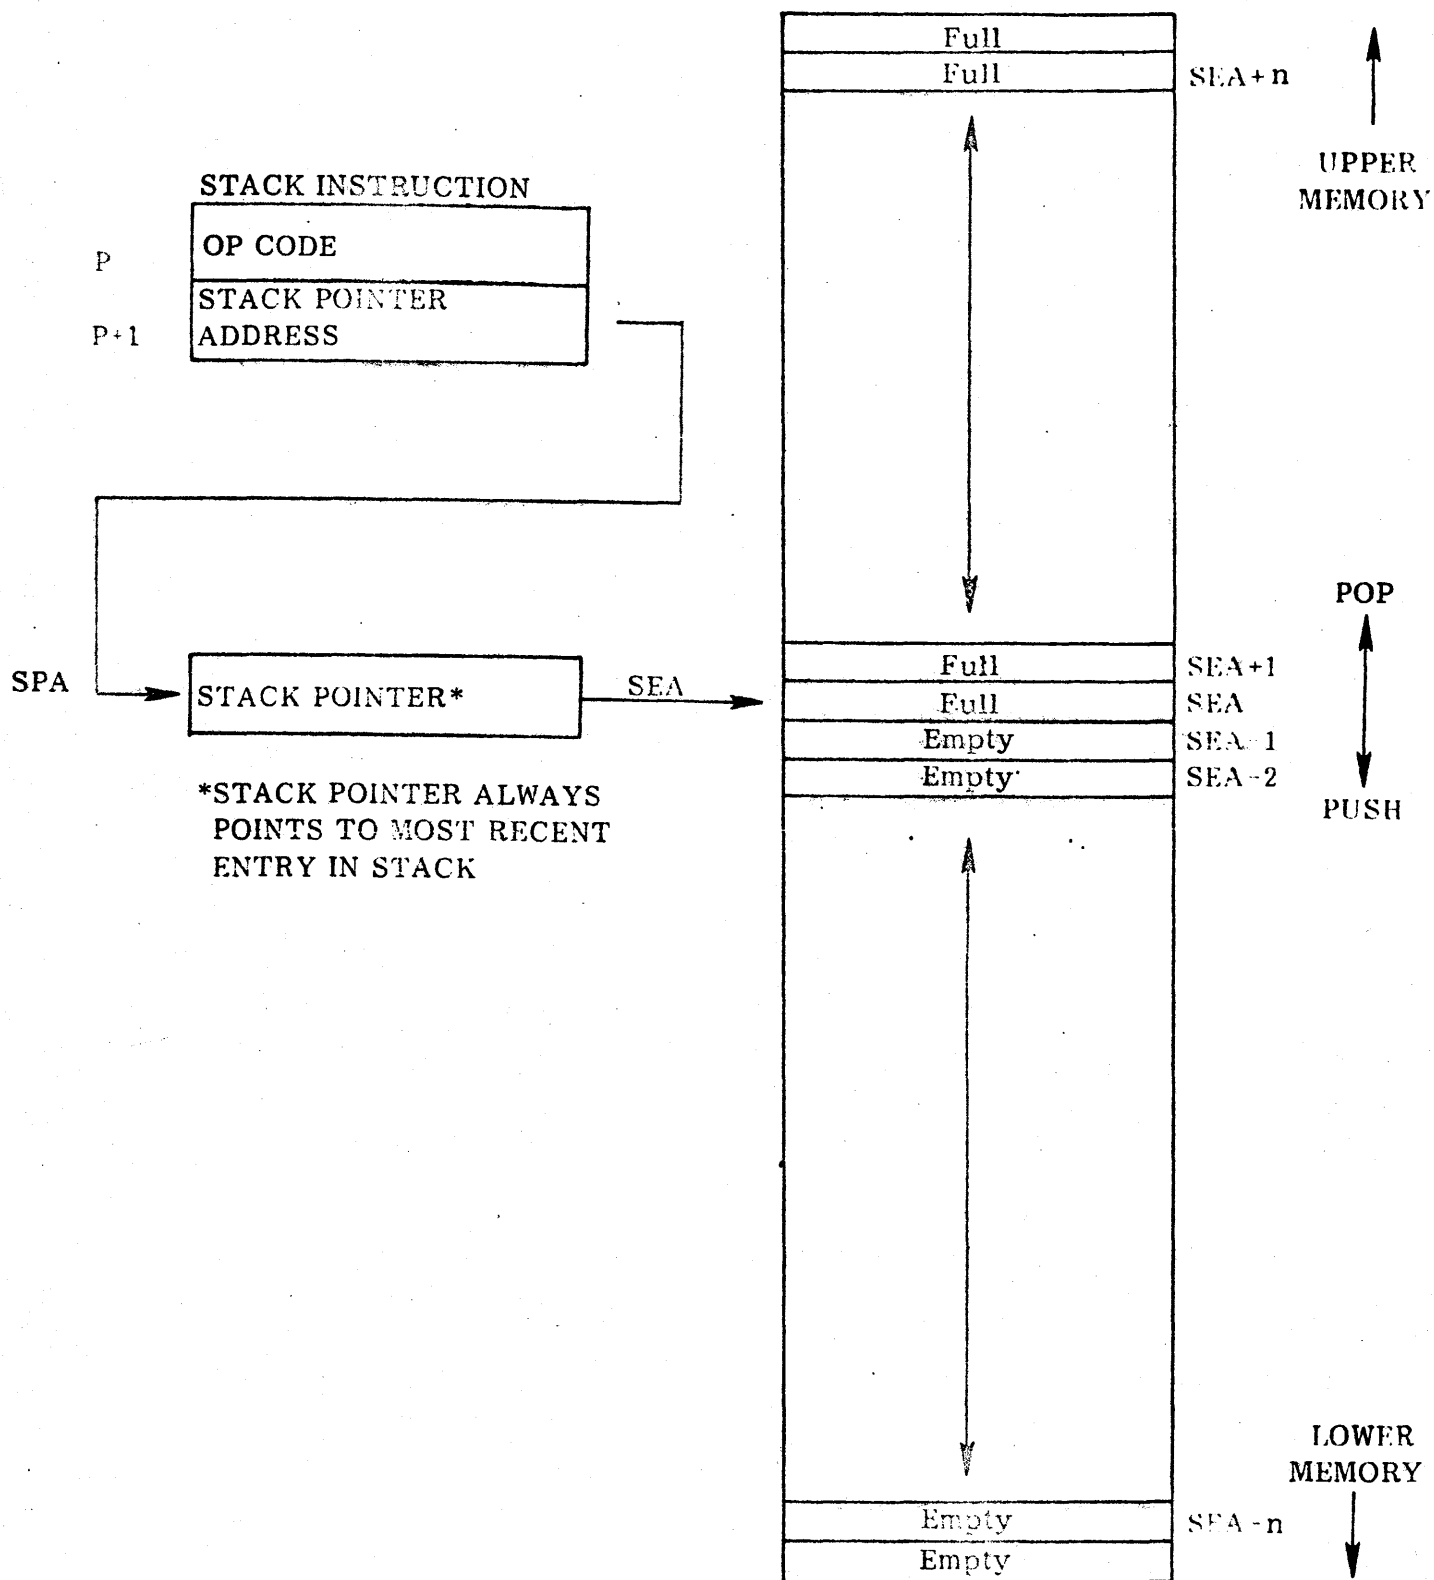

Figure 2-1. Stack Organization and Management
2.2 STACK, DOUBLE WORD INSTRUCTIONS (Figure 2-1)